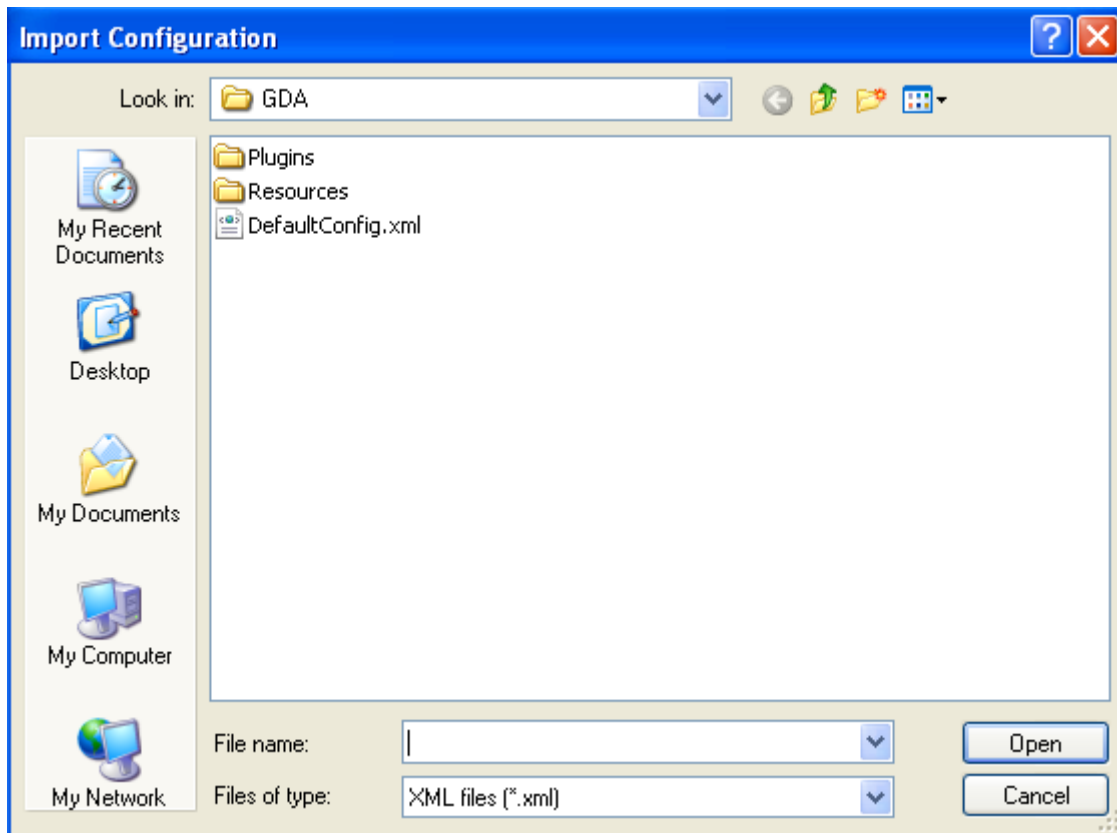

Figure 100 - Import Configuration Window
4. The **Import Configuration** window (Figure 100) appears.